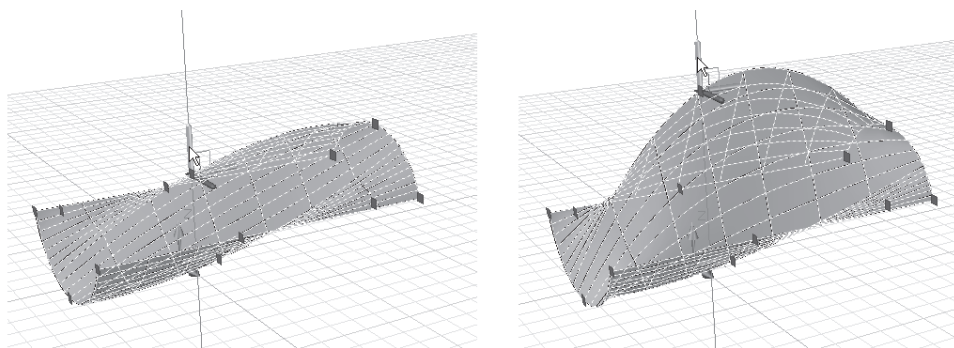

Figure 6.39
2. Place the cursor on the top grip of the middle polyline, but don't click quite yet (see the left image in Figure 6.39). The Grip tool moves to the grip to which you point.
4. Click the Z coordinate of the Grip tool, and then move the cursor upward. The loft shape is pulled upward. Click again to fix the grip in a new, higher location. (See the right image in Figure 6.39.)